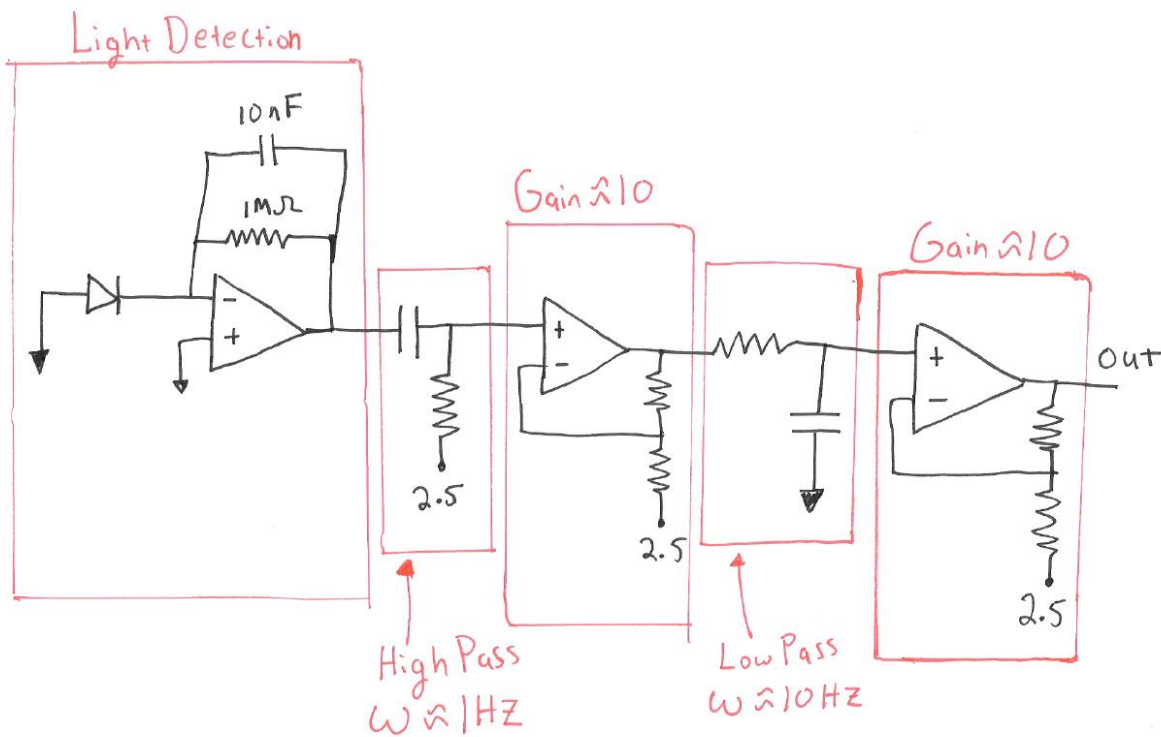

Figure 1: Circuit to measure the variation in light intensity through your finger.
- 1) Your final circuit schematic, i.e. a copy of figure 1 but with your final values selected. You can hand sketch it. Include the resistor values on the schematic. Include the actual cutoff frequencies and amplifier gains. You can sketch the circuit, but it should be neat enough that someone else in the class could build the circuit off your drawing.